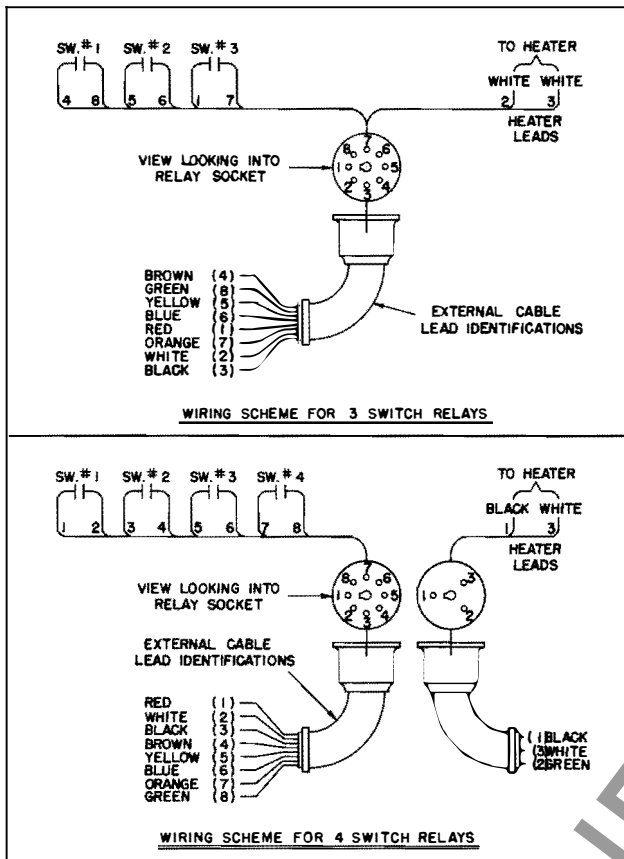

Fig. 8 Sketch of Internal Wiring
7. The flexible cable is normally shipped with one end already wired into a connector box or tank brace. In those cases where the cable is shipped as a detail item, it will be necessary to strip back the insulation and connect the cable leads to terminal points as per the wiring diagram furnished with the unit. (See also Fig. 8) Among the details shipped with each cable will be a cable grip entrance fitting and a cable entrance reference drawing for aid to installation
Sometimes two switches are required in addition to a pair of auxiliary cooling control switches. Consult the wiring diagram supplied with the transformer for the exact equipment supplied. Typical internal wiring is shown in Fig. 8.